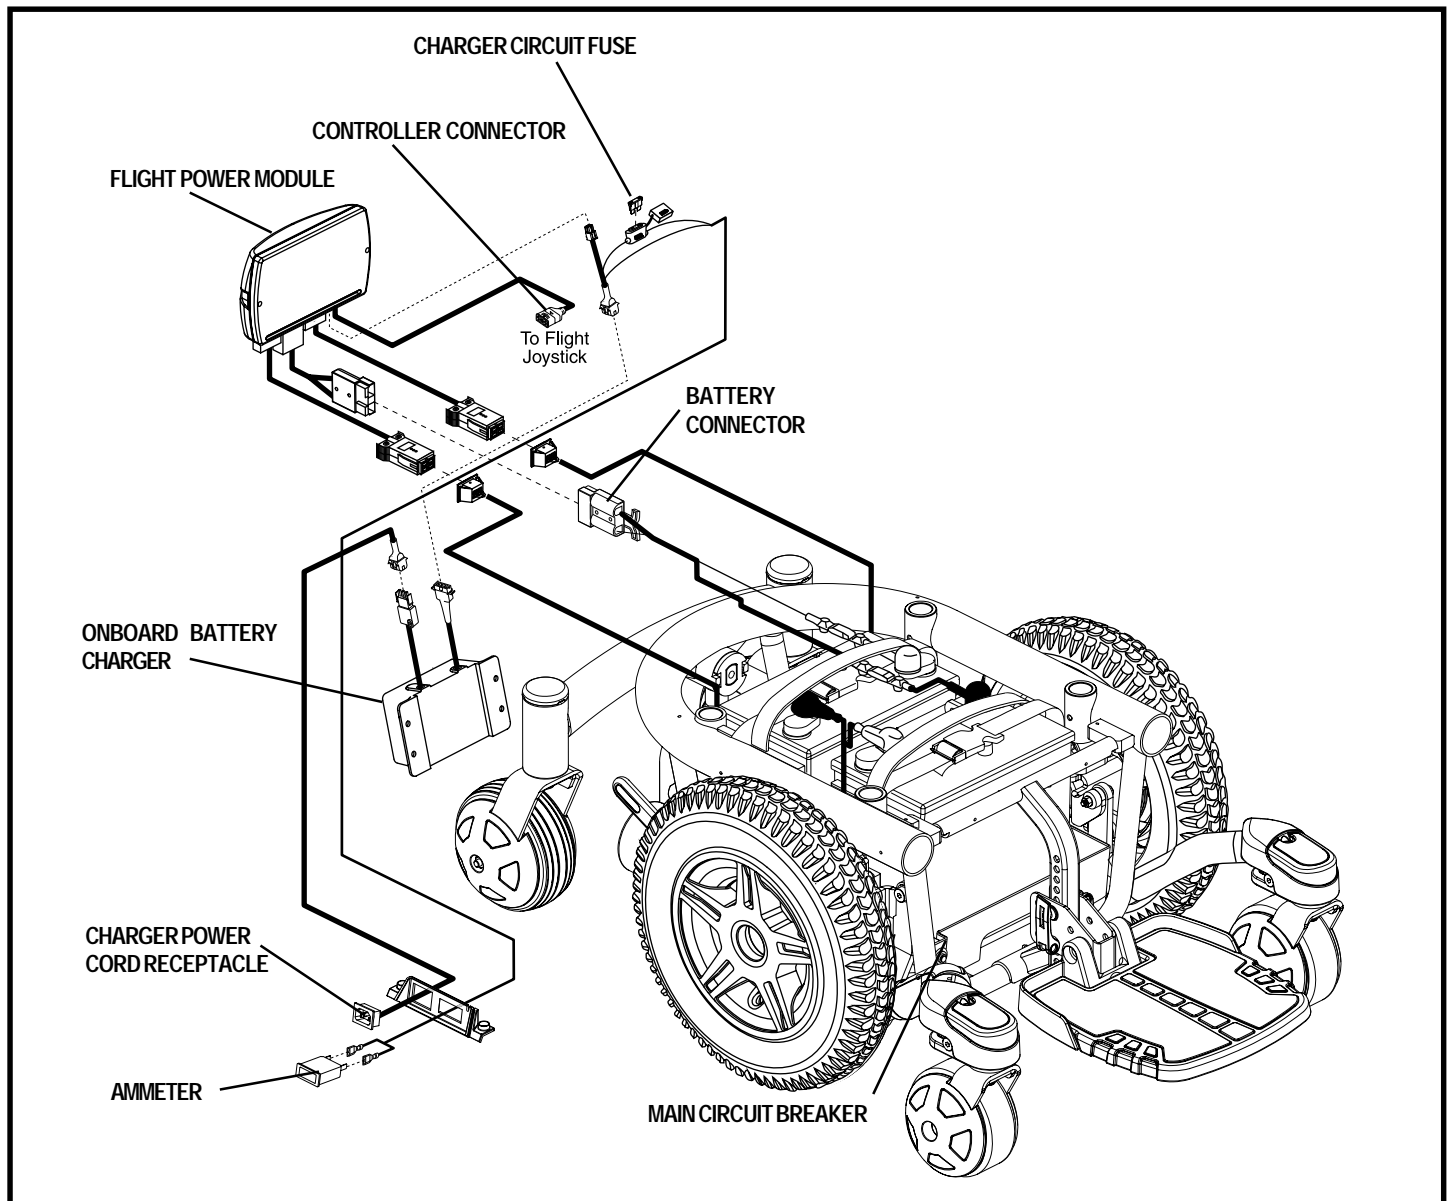

Figure 7. Jazzy 600 XL Electrical Components
The electrical components are located inside the power base. The ammeter and the charger power cord receptacle are located on the right side of the power base. The main circuit breaker is located on the front of the battery tray. The controller connector(s) are located inside the power base. See figure 7.
8. Plug the controller connector(s) into the power base. See figure 7.
3. Disconnect the controller connector(s) from the power base. See figure 7.